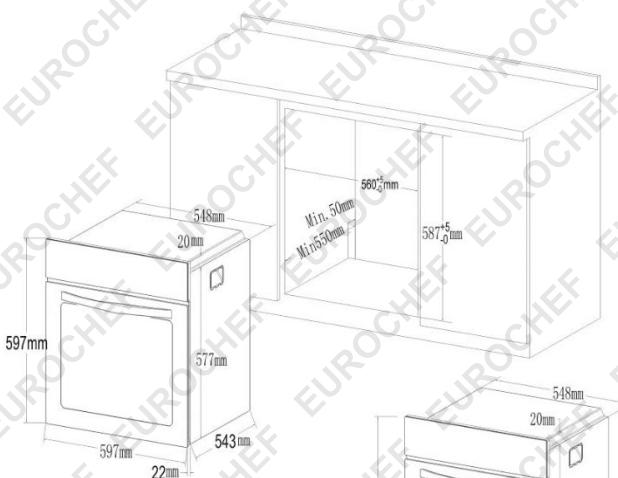

Figure 1
- Carpentry: Refer to figure 1 or 2 for the appliance dimensions to your oven, and the space necessary to install the oven. The oven support surface must be solid plywood or similar material, and the surface must be horizontal from side to side, left to right and front to rear.